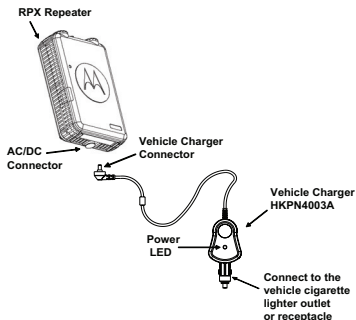

Figure 1. Charging Inside Vehicle
1. Connect the vehicle charger connector into the RPX Repeater AC/DC jack. See figure 1 below.